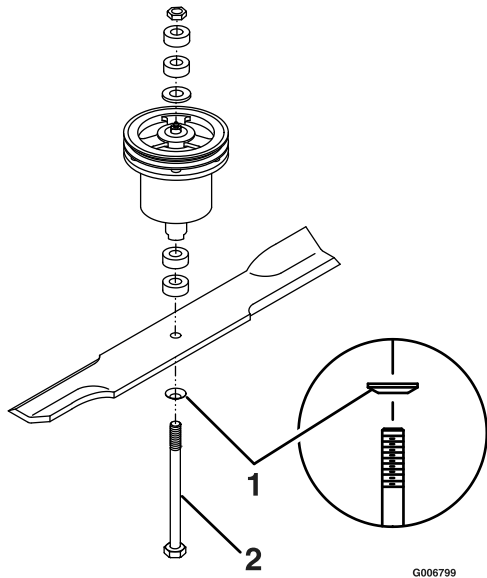

Figure 13
10. Torque bolt to 75–80 ft-lb (102–109 N-m) (see Figure 13).